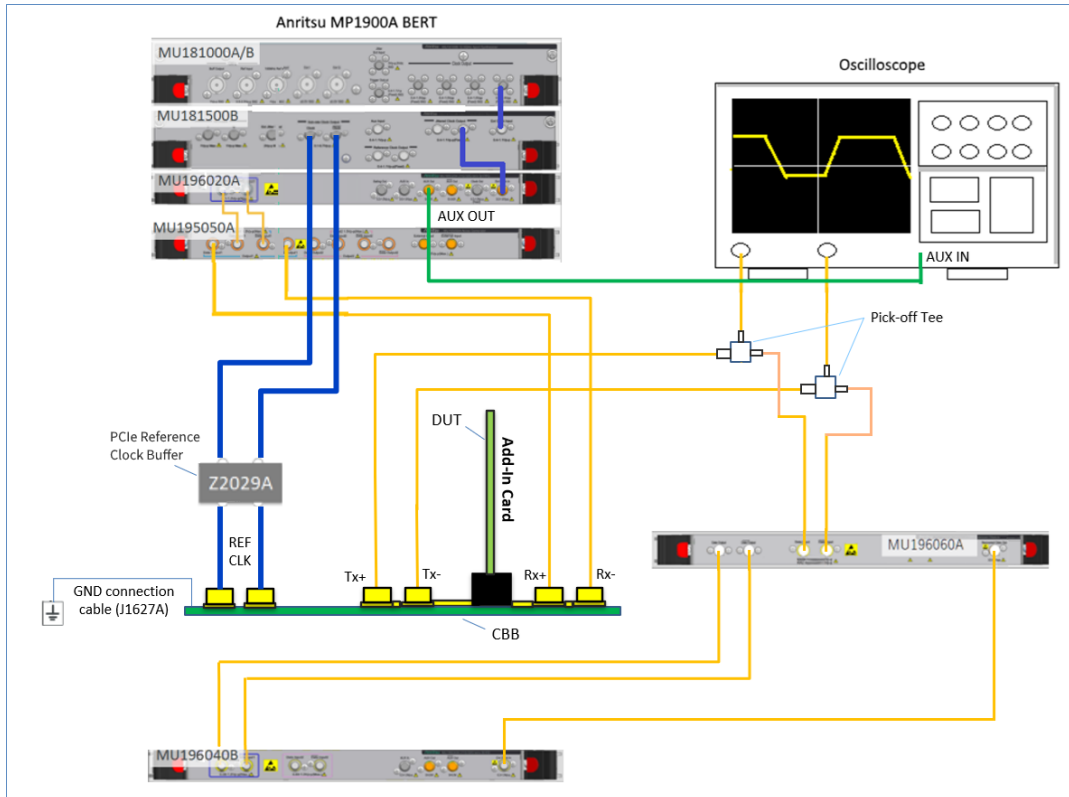

FIGURE 55. CONNECTION DIAGRAM FOR PCIe GEN 6 ADD-IN CARD DUT INITIAL TX EQ / TX LINK EQ RESPONSE TEST
1. Using the same setup from the add-in card link EQ test (Figure 55), remove all oscilloscope connections along with the pick-off tees.